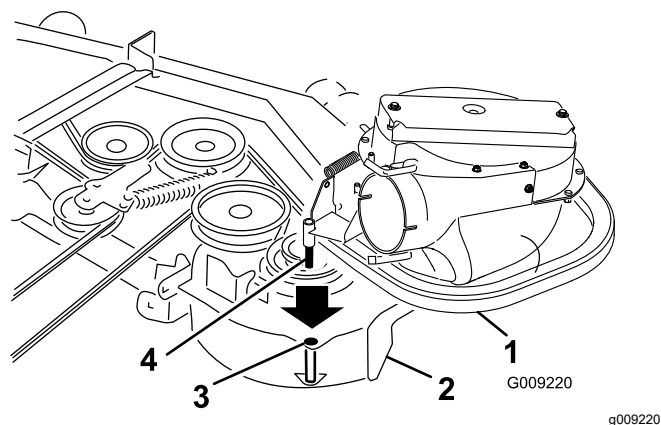
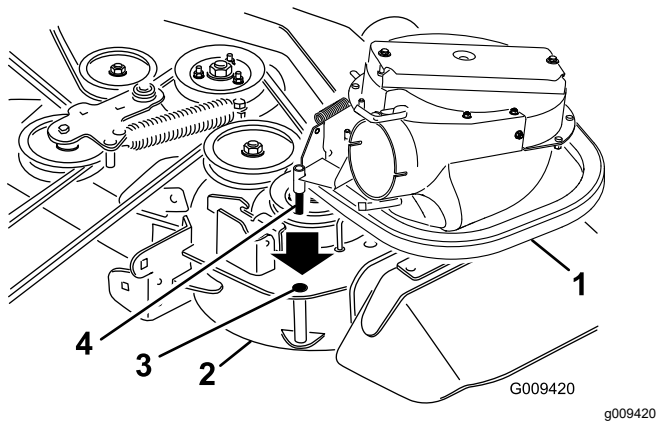

Figure 18
Figure 17
- Slide the blower-assembly peg into the pivot hole (Figure 17 or Figure 18).